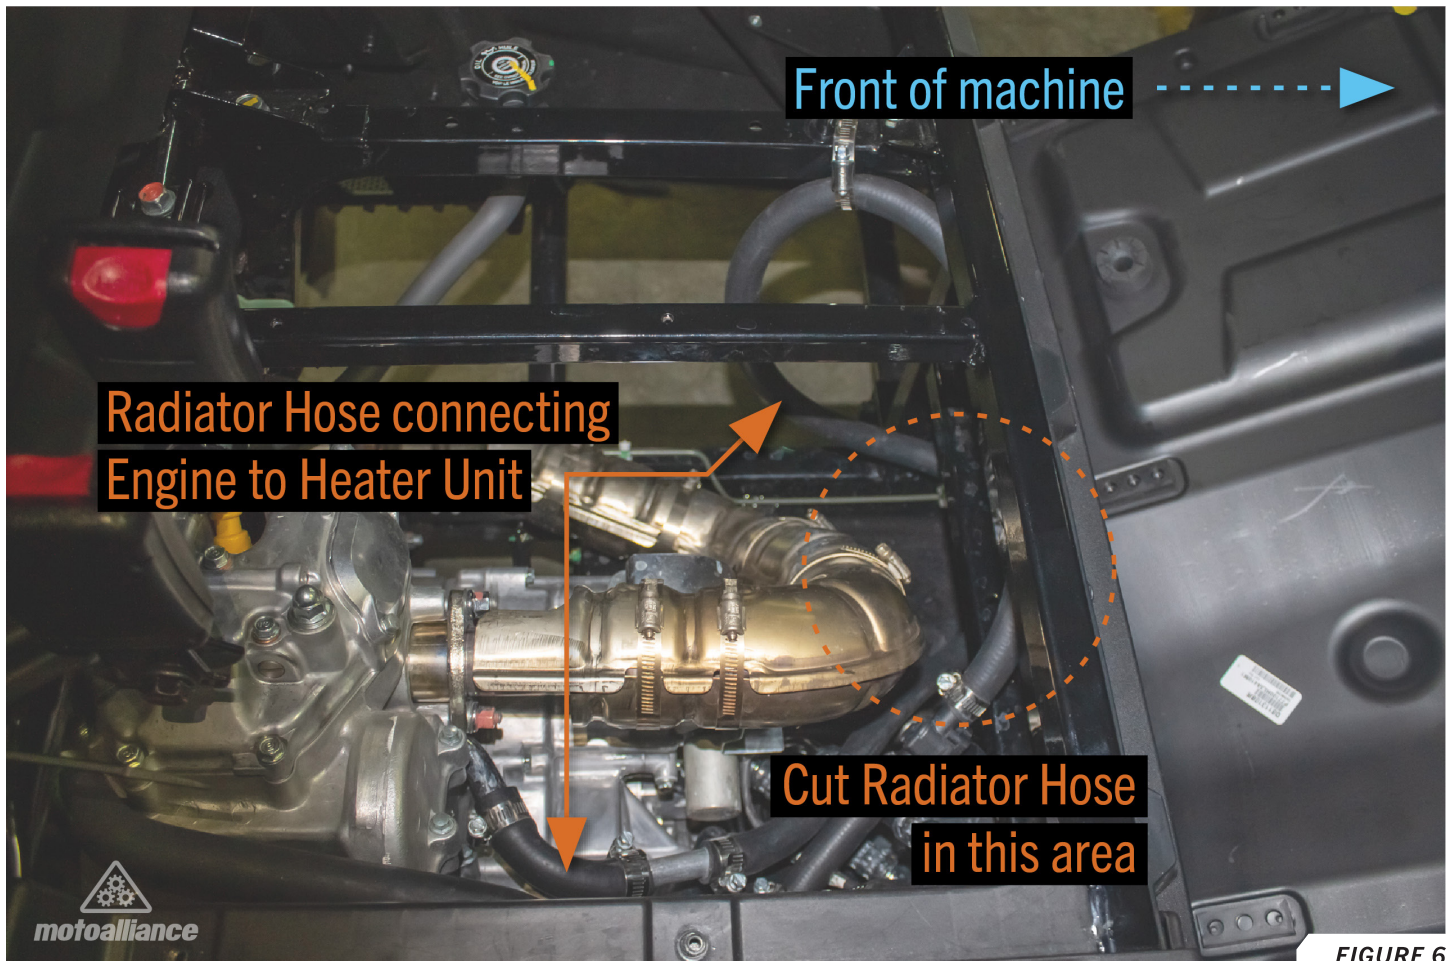

FIGURE 6
14. Cut the radiator hose connecting the engine to heater unit in an area close to the skid plate. **FIGURE 6**